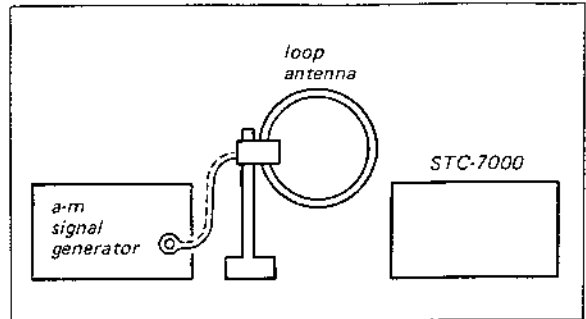

Fig. 3-11. Tuner input meter calibration test setup (A-m)
1. Connect the test equipments as shown in Fig. 3-11.